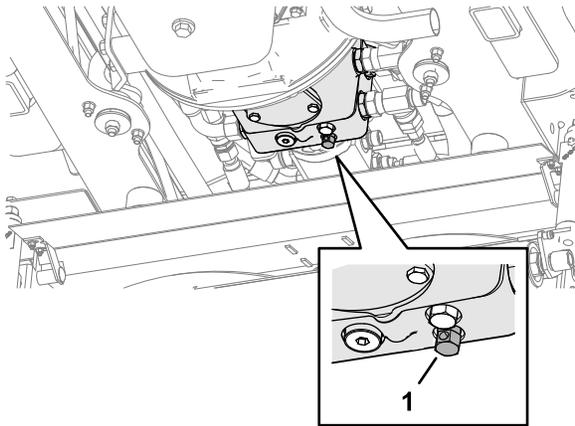

Figure 44
- Above the center cutting unit, close the bypass valve on the transmission pump by turning it clockwise (Figure 44).